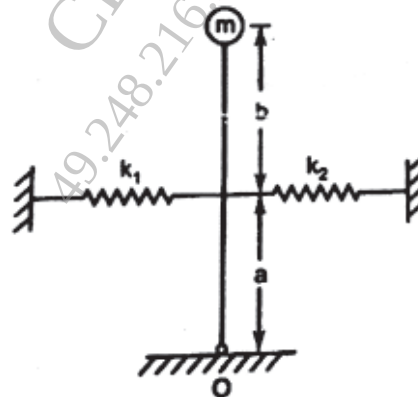

Fig. 1 (Q. 1b)
**b)** Determine the expression for natural frequency of the system shown in Fig. 1 [4]